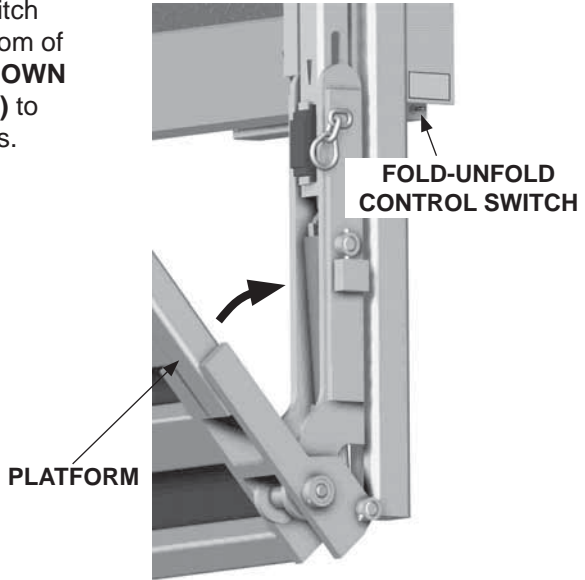

FIG. 26-1
3. Use **FOLD-UNFOLD** switch (**FIG. 26-1**) near the bottom of column. Then, use **UP-DOWN** control switch (**FIG. 27-1**) to raise runners to the stops.